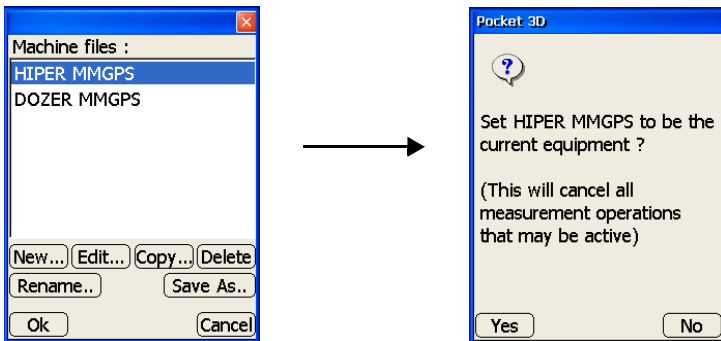

Figure 2-53. Select Equipment Configuration
10. On the *Equipment configuration* dialog box, select the new or edited configuration file and press **Ok** to continue (Figure 2-53 on page 2-37).
- At the **verification** screen, press **Yes** to apply the configuration file as the current equipment (Figure 2-53 on page 2-37).